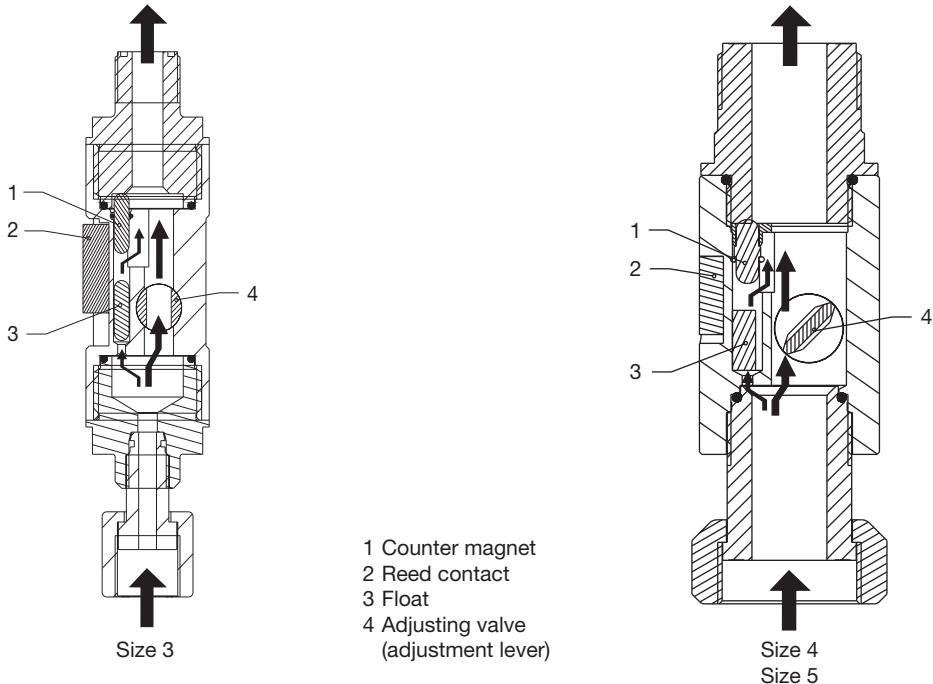

Fig. 1
The "Flow Control" flow monitor comprises essentially a pipe with a float (3) and a bypass with adjustable cross section (see Fig. 1). The Flow Control is adjusted to the lift volume of the pump by varying its cross section with the control lever - its response sensitivity is adapted accordingly.